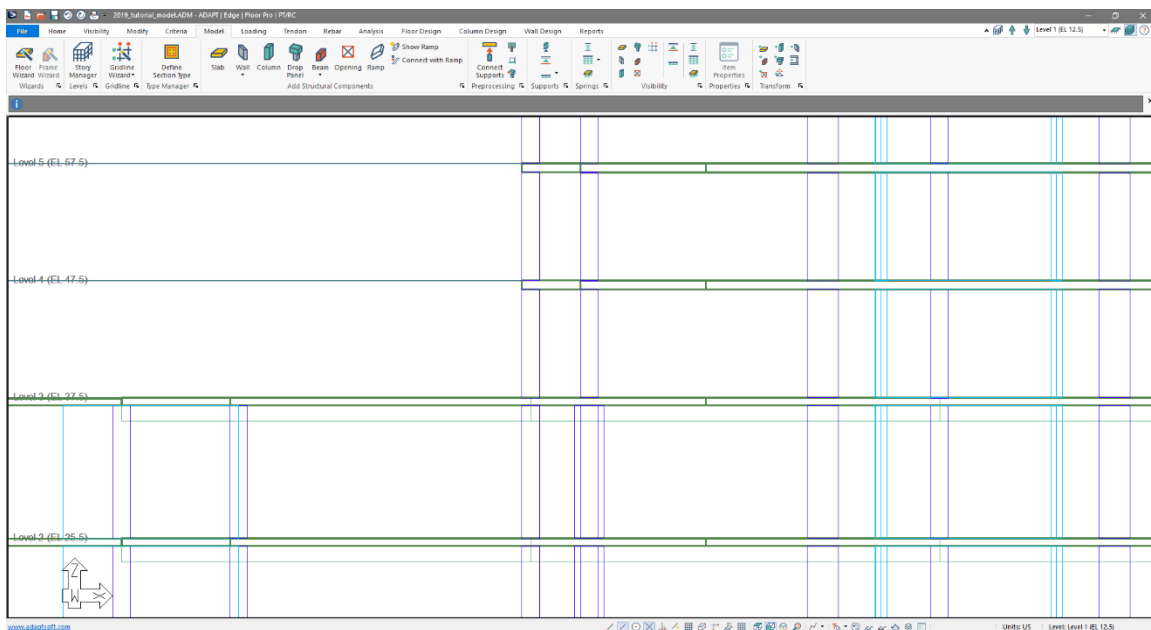

Figure 6-1
- Go to *Model* → *Preprocessing* → *Connect Supports*. The program will automatically shift the tops and bottom of the supports to the top/soffit of slab as shown in **FIGURE 6-1**.